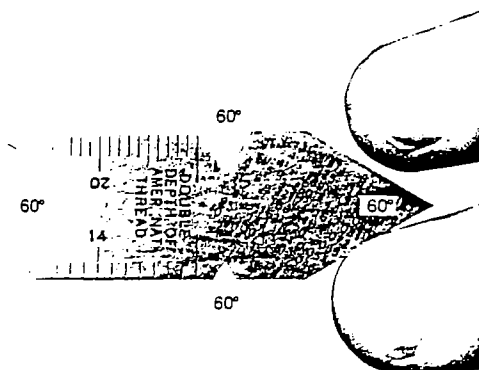

FIGURE 24
5. Set threading tool in tool post at position determined by fishtail gauge (Figure 24).